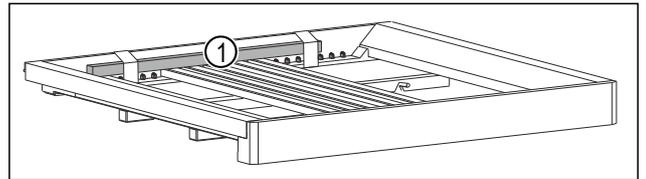

Fig. 6 *
- ▶ Remove the wooden stick Fig. 6 (1)*.